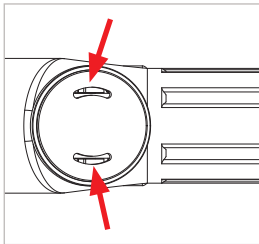

Figure 17
- ▶ Pull off the logo cap (Pos. 3) by hand and apply approx. 1–2 short sprays into the openings on the left and right using the small dispensing tube (Figure 17). Then replace the logo cap (Pos. 3). This should click audibly into place.